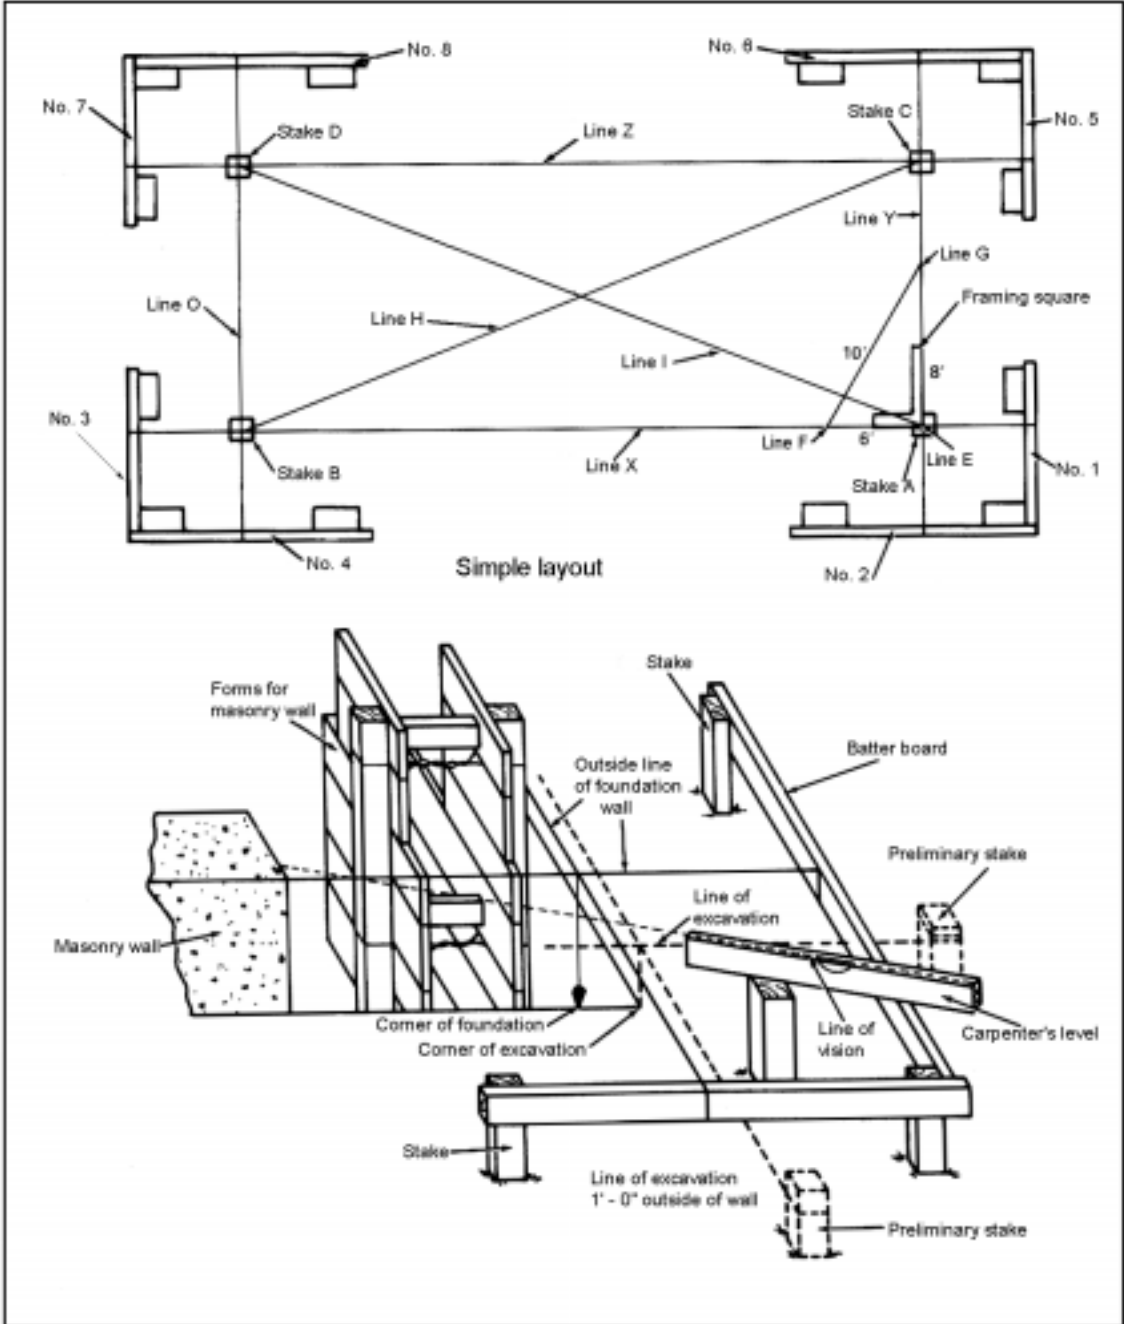

Figure 051-236-1162-3
4. Extend and square lines (Figure 051-236-1162-3).